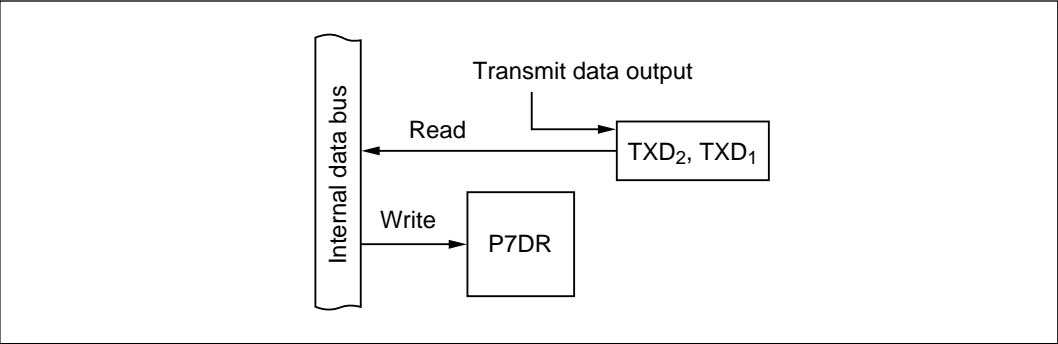

Figure 10-49 TXD₂ and TXD₁ Output (Modes 1 to 7)
(5) TXD₂ and TXD₁ Output (P7₄ and P7₂: Modes 1 to 7): Figure 10-49 shows a block diagram illustrating the TXD₂ and TXD₁ output function. Table 10-40 indicates register read/write data. When P7₄ and P7₂ are used for TXD₂ and TXD₁ output, the value written in P7DR is ignored, but P7DR can be read to monitor the levels at the TXD₂ and TXD₁ pins.